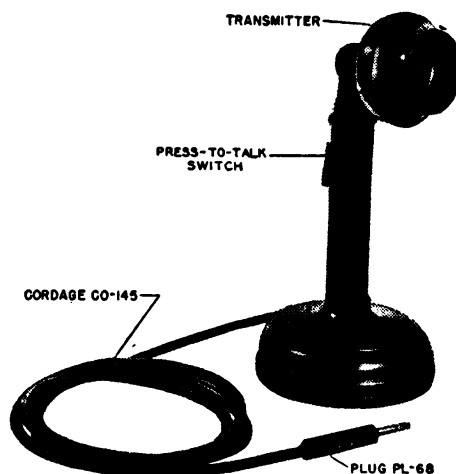

Fig. 3—Microphone T-32
d. **Microphone T-32**, figure 3, is a single button carbon-granule type microphone, mounted on a desk stand and equipped with a PRESS TO TALK switch. This switch, when operated, connects the microphone to the amplifier circuit and also energizes the keying relay in Control Unit RM-12-(*). The microphone is equipped with a cord and plug for a jack connection to Control Unit RM-13-(*).